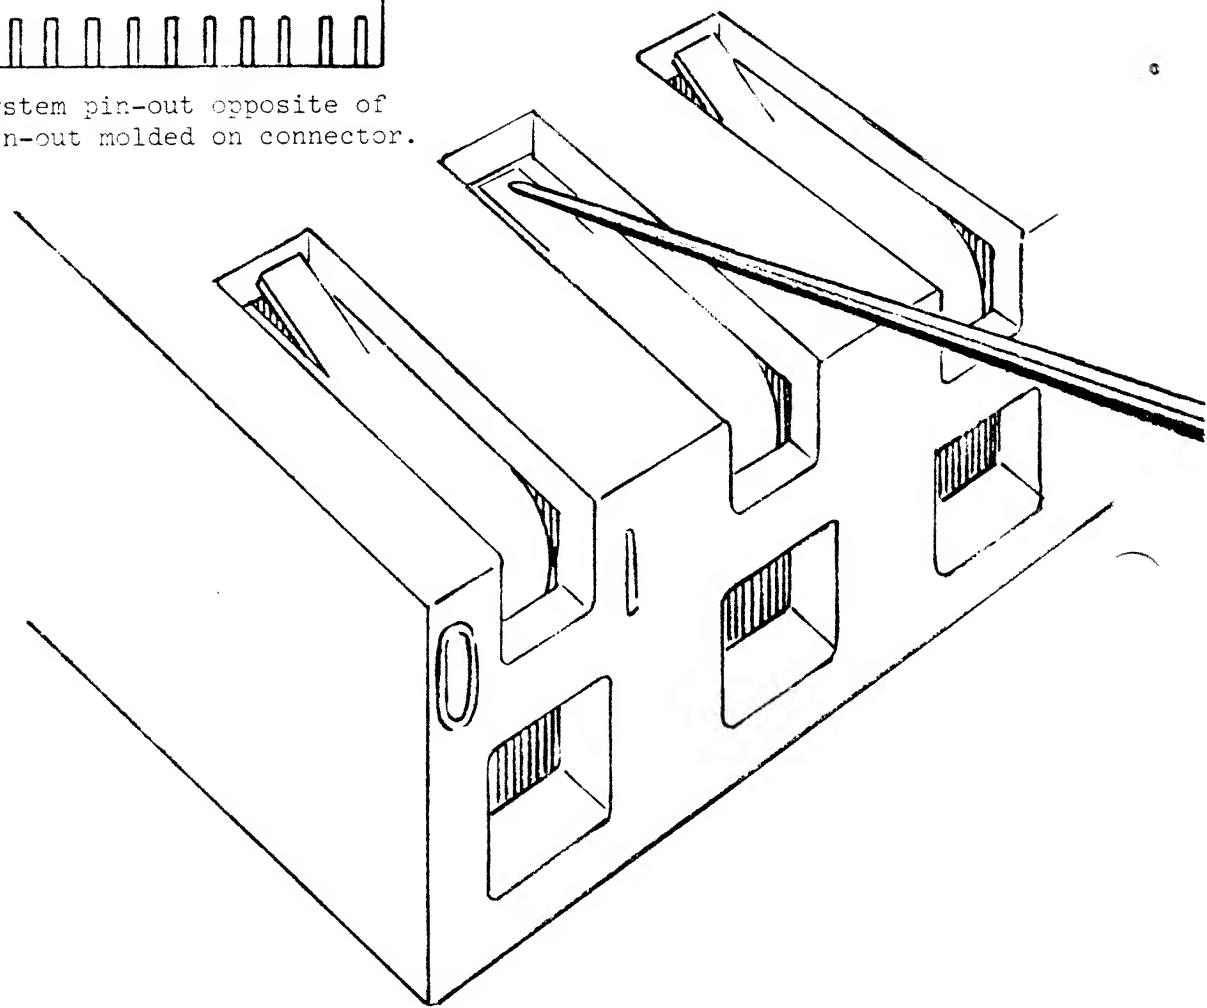

FIGURE 6
- 7) Route the control panel wiring harness. Locate the two connectors P5 and J1 at the end of the control panel harness. Plug connector P5 into connector P5 located along the top edge of the main logic board. Similarly plug J1 into J1 of the A/D converter board. Plug the remaining two wires (white and violet) of the control panel harness into connector P4 of the main board as shown in Figure 6.